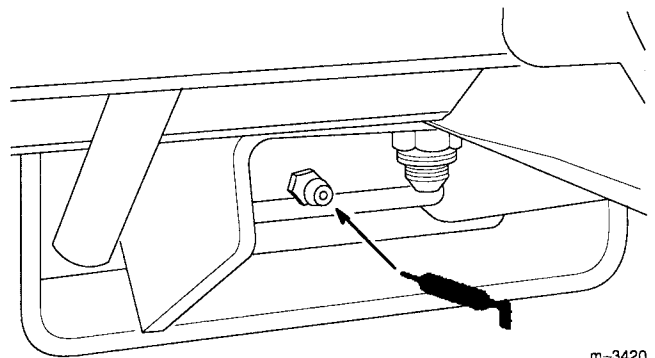

Figure 31
6. Grease the fitting on the brake pedal (Fig. 31).